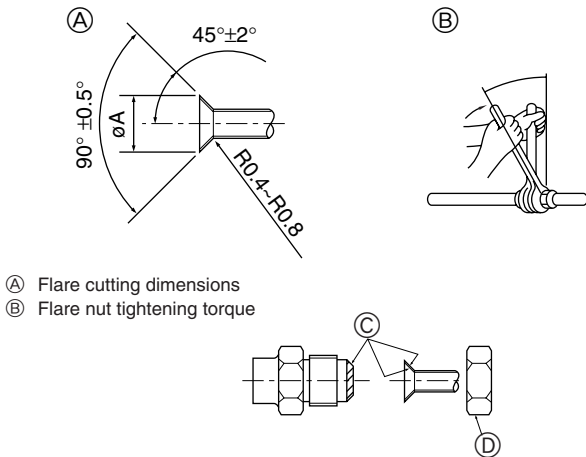

Fig. 4-1
4.2. Connecting pipes (Fig. 4-1)
- Apply thin layer of refrigerant oil to pipe and joint seating surface before tightening flare nut. (A)
- Use two wrenches to tighten piping connections. (B)
- Apply refrigerating machine oil over the entire flare seat surface. (C)
- Use the flare nuts as attached to the unit. (D)
① Pipes must be connected starting from the indoor unit.
Table 1 (Fig. 4-1)